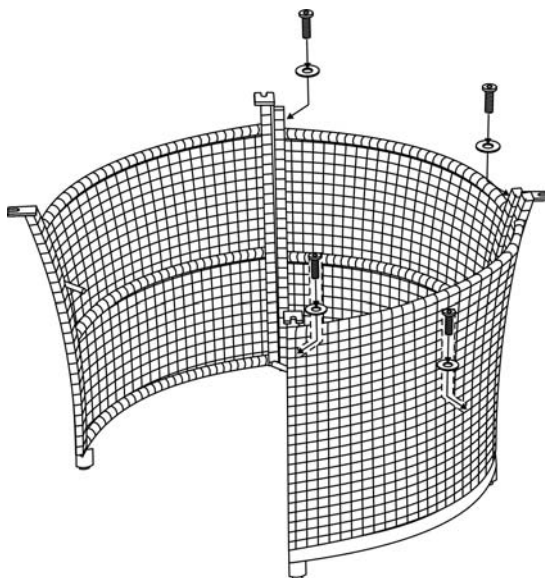

Figure 3
2. Attach the back panel to side panels by using four 1/4"x40 mm bolts and Ø6.5X1.0 mm washers as shown in Figure 3. Guide bolts through holes in back panel, into pre-drilled holes in the side panels. **Hand tighten only.**